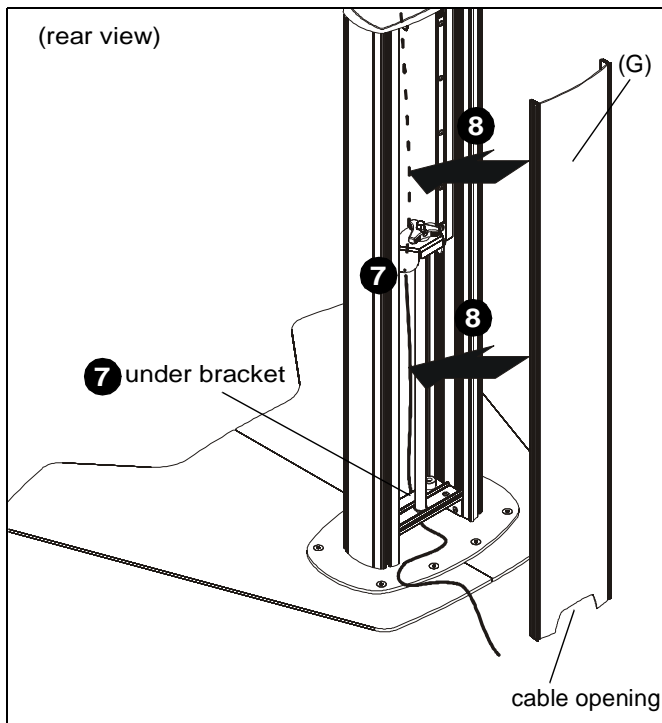

Figure 10
- Snap back cover (G) onto back of column assembly making sure cables fit through opening at bottom of cover. (See Figure 10)